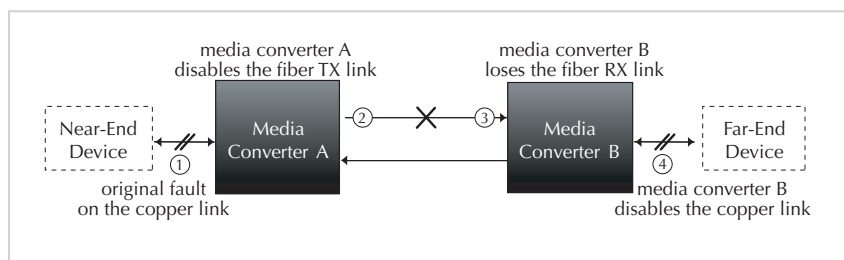

Figure 14: Link Pass-Through
The SIBTF10xx-110 industrial switch provides a Link Pass-Through feature, which allows monitoring its fiber (FX) and copper (RX) ports for signal loss. Refer to Figure 14, in the event of an RX signal loss (1), the industrial switch will automatically disable the TX (*transmit*) signal (2) thus “passing through” the link loss (3). The far-end device is automatically notified of the link loss (4), which prevents data losses by transmitting data over an invalid link unknowingly.